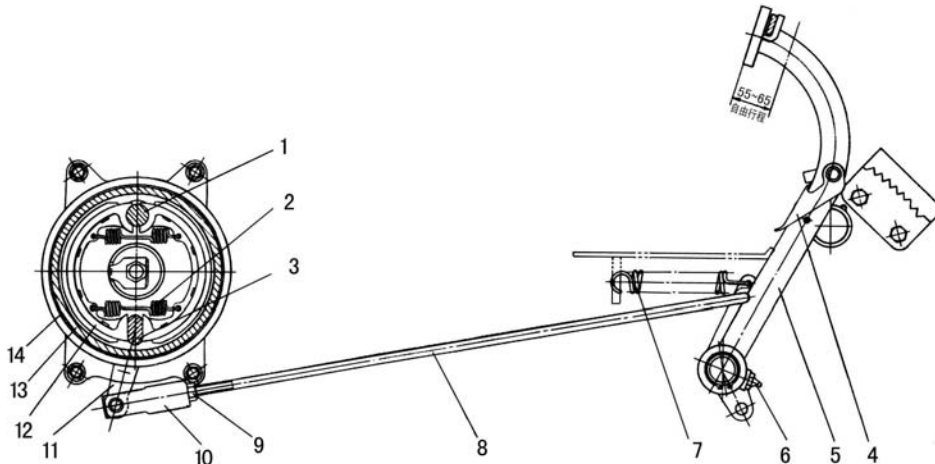

Fig.4-5 Block brake
A. Free travel adjustment of brake pedal is the displacement measured from the highest position of the pedal ,when resistance is felt by pressing the pedal .The travel should be in the range of 55-65 mm (Fig.4-5) .During adjustment ,firstly loosen the locking nut (9) on brake pull rod (8) and change the length of the brake pull rod ,then press the brake pedal (5) from its highest position untill the displacement it 55-65mm and the gap between brake drum (13) and brake shoe(12) is eliminated . Make the left and right brake pull rod adjustment be identical ,the tighten them with locking nut (9) (Fig.4-5).